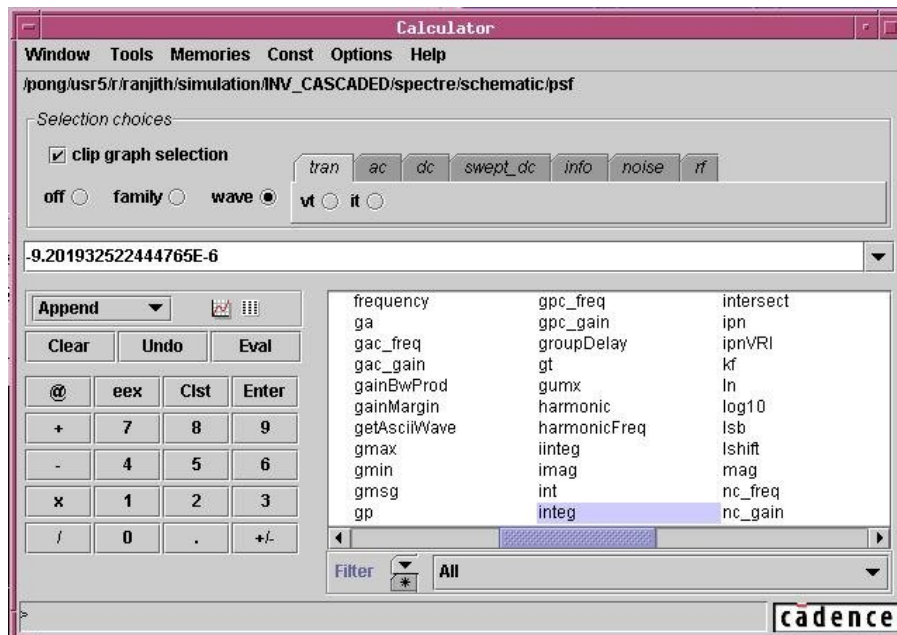

Fig. 9. Average Power Consumed
- The average power consumed by your circuit will be displayed in the result text-box, as shown in Fig. 9.